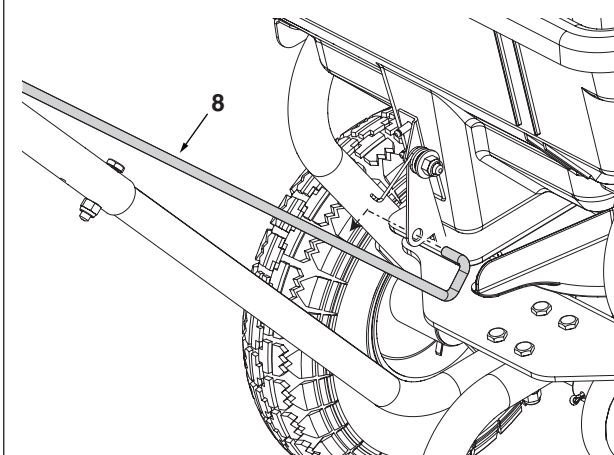

Figure 14
STEP 14: (SEE FIGURE 14)
- Attach the end of the control rod (8) shown below through the slide gate bracket on the hopper.